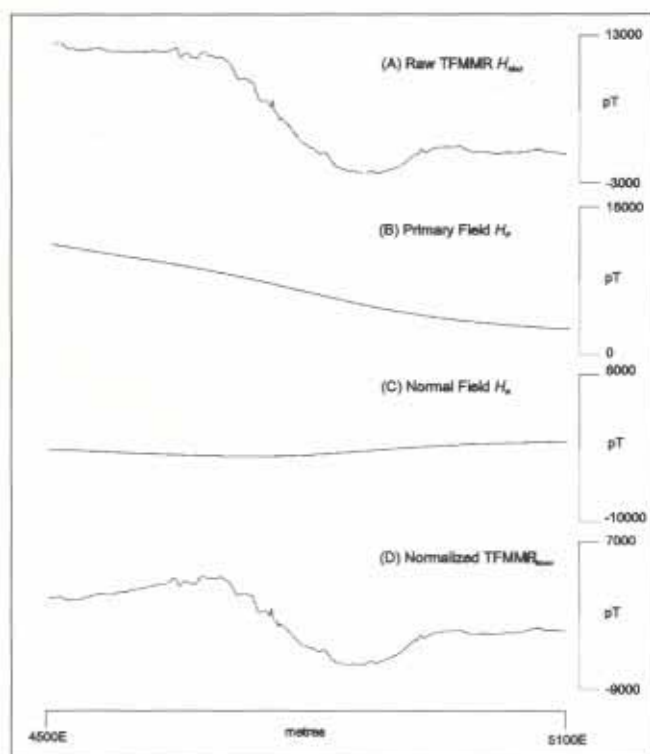

Figure 9. (A) Peak amplitude of the SAM modulation; (B) the calculated Primary field; (C) the calculated Normal field; and (D) the normalised MMR data.
The "Raw TFMMR" is defined as the peak-to-peak amplitude of the SAM signal, shown in Figure 9(A). The Raw TFMMR signal is the sum of the "Primary Field" (B) due to the current in the wires feeding the electrodes and the field associated with the current flow in the ground. As the position of feed wire is known, the Primary Field may be calculated and subtracted from the Raw TFMMR data. The "Normal Field" (C) due to the current that would flow in a homogenous earth is also calculated and subtracted from the data. This then leaves the "Normalised TFMMR" (D), which is the signal associated with the anomalous current flowing through the geological structures of interest. In this example, the Normalised TFMMR anomaly is dipolar indicating a thin conductive sheet structure at 4800mE and dipping a few degrees to the west.